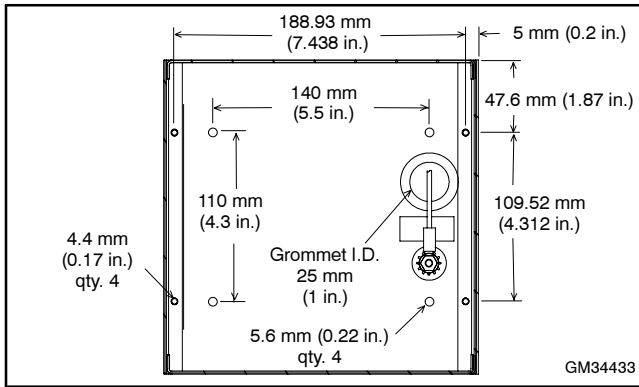

Figure 15 RSA Mounting Hole Dimensions in Supplied Box GM31884
See Figure 15 for RSA supplied box mounting hole information.
- 3.5.3 Remove the ground wire and hardware from box GM31884 and install the ground wire and hardware in the Hoffman box. See Figure 15 for recommended location. Substitute user-supplied ground wire and hardware as needed. Temporarily install the RSA front panel assembly to be sure the ground wire location does not interfere with attaching the RSA front panel assembly.